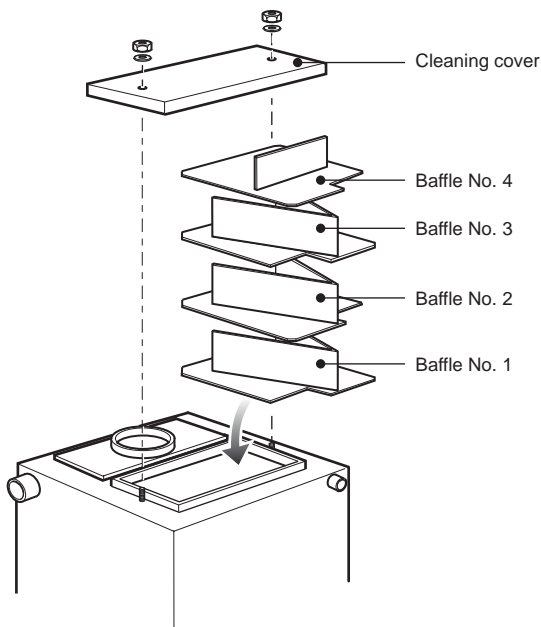

Fig. 18 - 50/70 baffle positions
See Figs. 18, 19, 20, 21 or 22
- 3 Remove the baffles, noting their position (see Figs. 18, 19, 20, 21 or 22).
- 7 Replace the baffles, ensuring they are correctly fitted. See Figs. 18, 19, 20, 21 or 22.